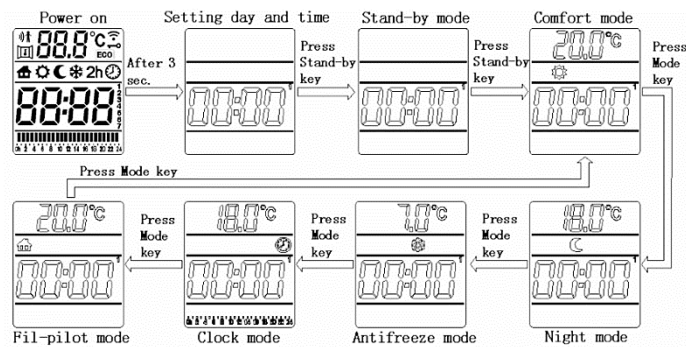

fig.1
4. Press the "Mode" button again to terminate the Minutes setting and to switch to stand-by mode. While "Date" is flashing, if the user does not wish to set any parameter, just press the "Stand-by" button to switch to stand-by mode immediately. (Fig. 1)